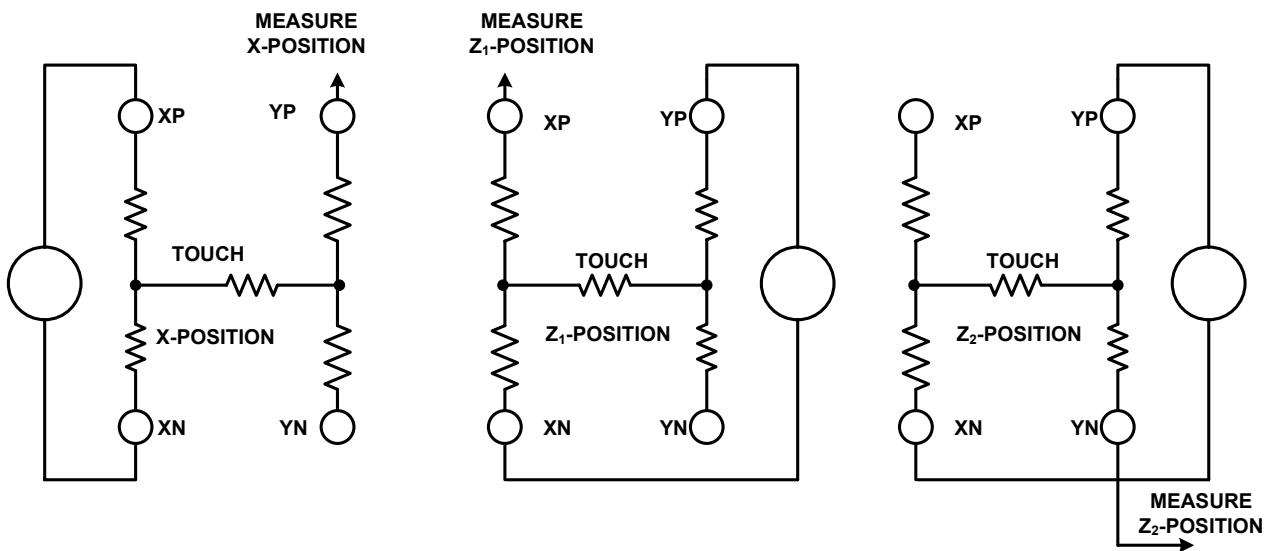

Figure 11. Pressure Measurement Block Diagrams
Measuring touch pressure can also be done with the XPT2046. To determine pen or finger touch, the pressure of the touch needs to be determined. Generally, it is not necessary to have very high performance for this test; therefore, the 8-bit resolution mode is recommended(however, calculations will be shown here in the 12-bit resolution mode). There are several different ways of performing this measurement. The XPT2046 supports two methods. The first method requires knowing the X-plate resistance, measurement of the X-Position, and two additional cross panel measurements (Z1 and Z2) of the touch screen, as shown in Figure 11. Using Equation (3) calculates the touch resistance: